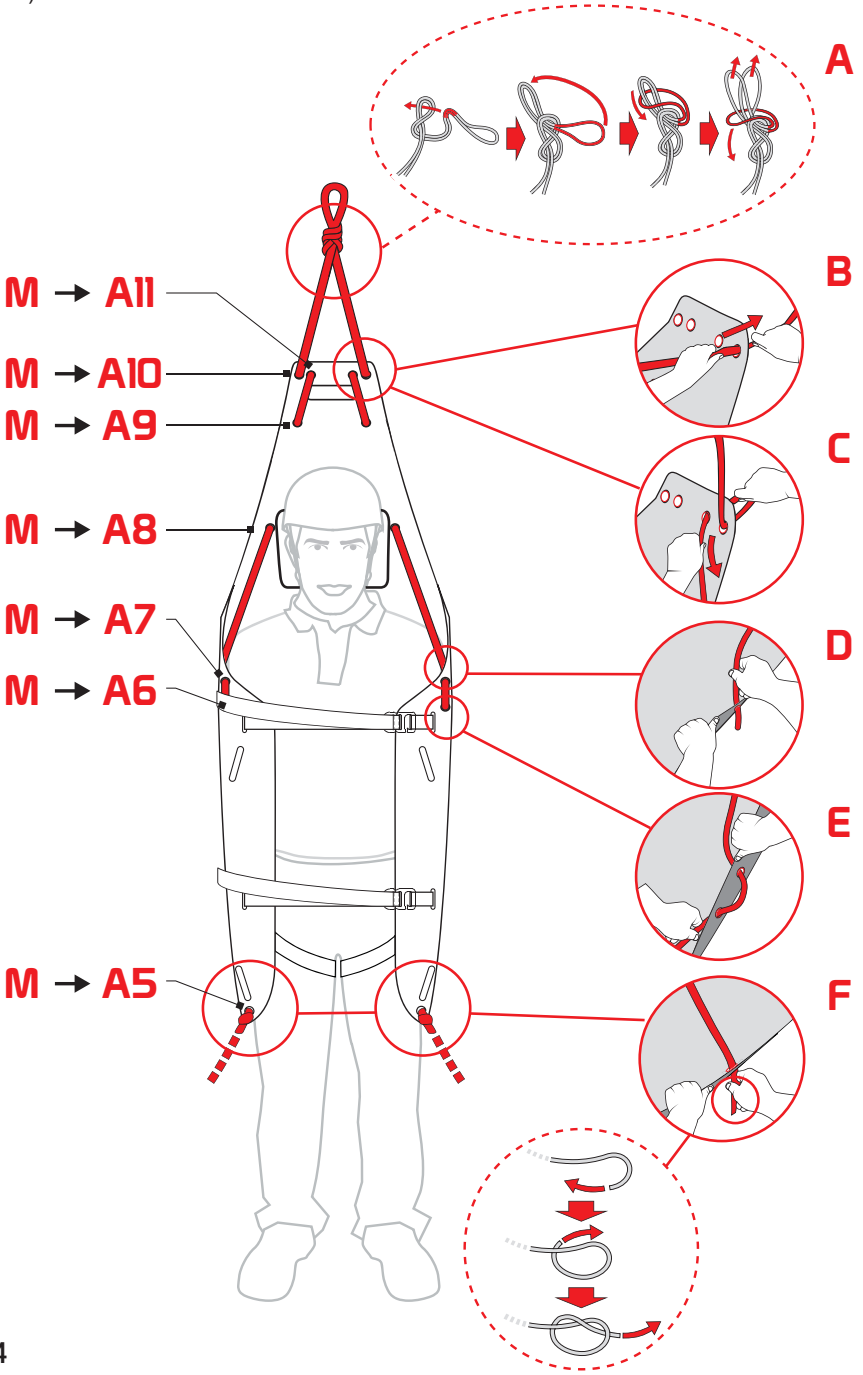

Fig.14
c) Vertical lifting/lowering: insert the rope (M) in the holes from A5 to A11 in the support surface (fig. 14).